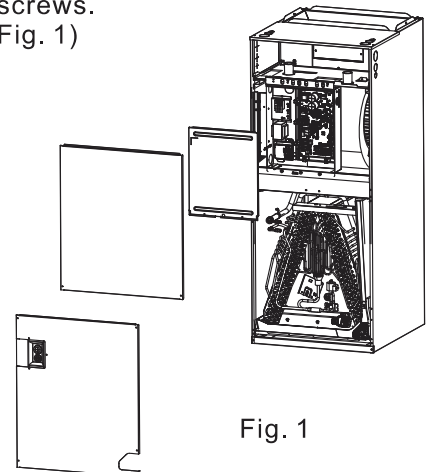

Fig. 1
- (1) Remove the lower panel and pipe cover (including two rubber ring), then remove the drainage hole cover. Remove the upper panel. Remove the electrical box cover. Unscrew screws. (Refer to Fig. 1)